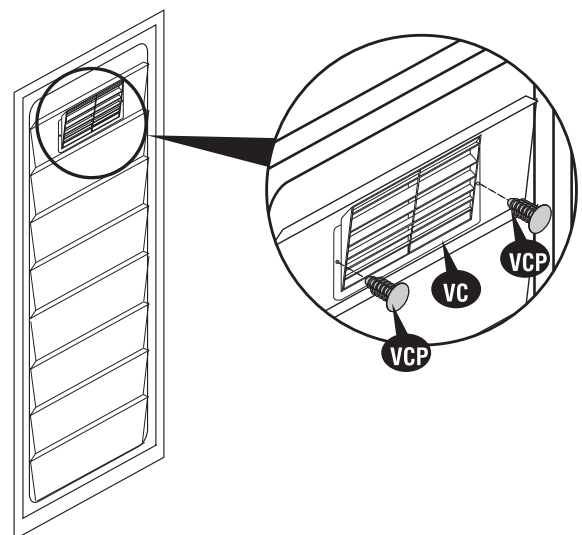

fig.4
4. Attach the **ventilation cover (VC)** with the **ventilation cover pin (VCP)** as in fig.4.